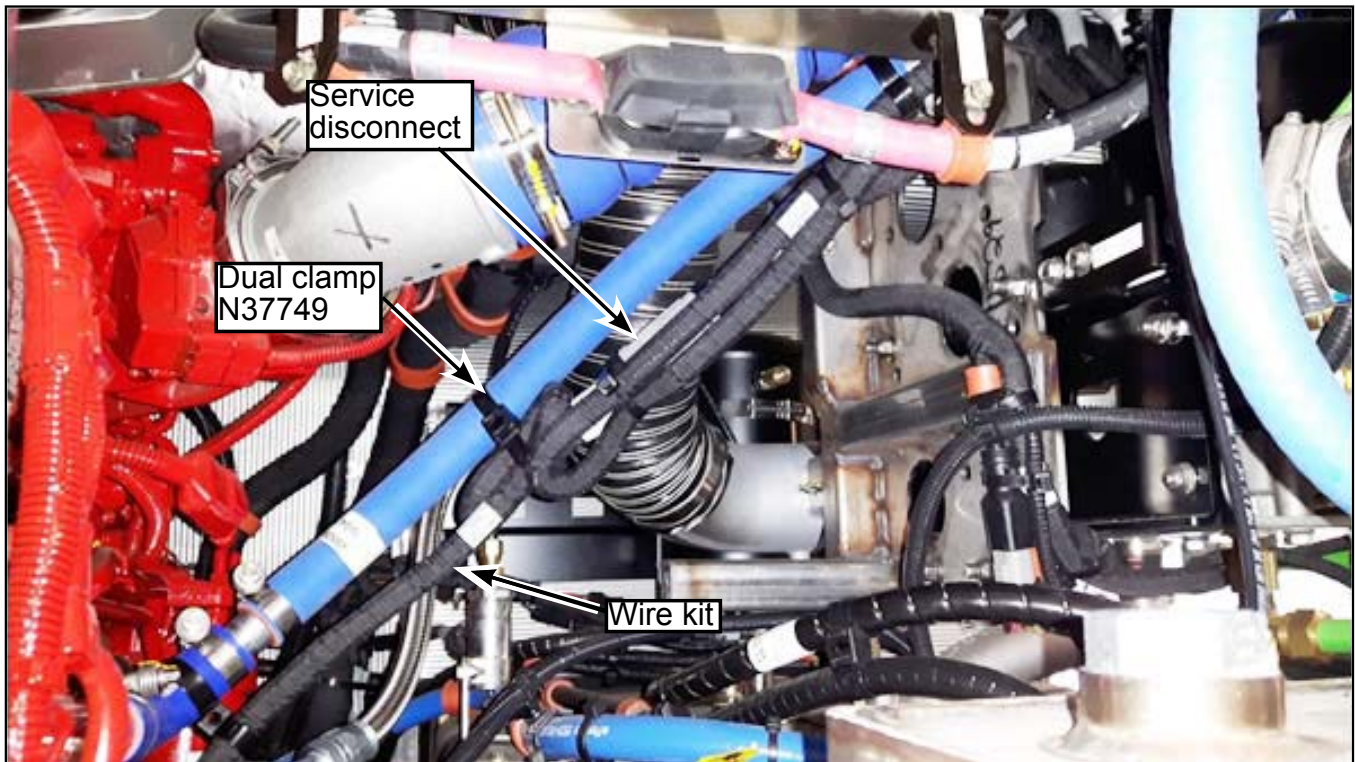

Figure 8 - Routing of Wire Kit
- 1.9. Continue routing the wire kit along the blue hose with dual clamp N37749. Note the position of the service disconnect. The excess length of the wire kit will need to be attached later with tie wraps (see Figure 8).